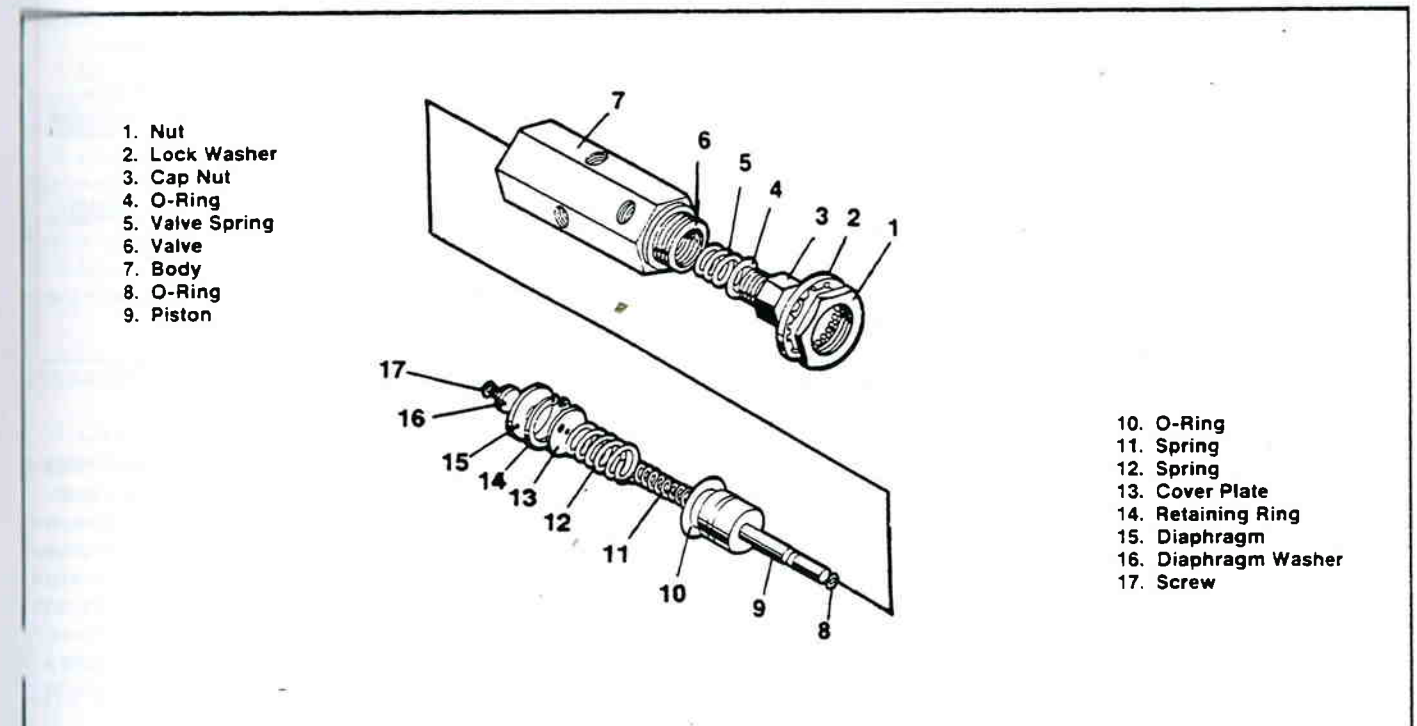

Figure 4-6. TR-2 Inversion Valve.
1. Refer to figure 4-6. Remove the cap nut with O-ring and remove the O-ring from the cap nut. Remove the inlet valve spring and inlet valve.